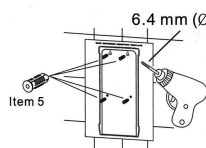

fig. 1
3. Insérer 4 chevilles en plastiques (fournies) dans les trous. Enlever le gabarit. (fig. 1)
2. Drill four (4) holes at marked locations 6.4 mm diameter (01/4").
3. Insert four (4) plastic anchors (supplied) into drilled holes; remove template (fig . 1).